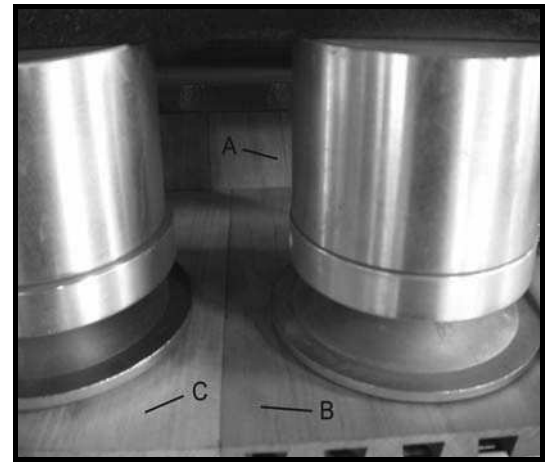

Figure 28
As noted previously, when the SIDE and FRONT/BACK pieces are inserted into the machine, they are offset a bit so they'll match correctly when assembled. In other words, the SIDE will rest slightly to the right of the FRONT/BACK in the machine. This leaves the right edge of the SIDE exposed without the "chip breaker" effect that the FRONT/BACK provides for the rest of the SIDE (see Figure 28). This may result in an unsatisfactory cut at the edge of the SIDE.
This problem is resolved simply by taking a two inch-plus wide "back-up" board, of the same thickness as the workpiece, and clamping it horizontally next to the FRONT/BACK piece, so that it backs up the exposed edge of the SIDE, as shown in Figure 28. You can use this piece over and over again.
3. Plywood has a tendency to chip out on exposed edges. A back-up board may be necessary (see Figure 28).